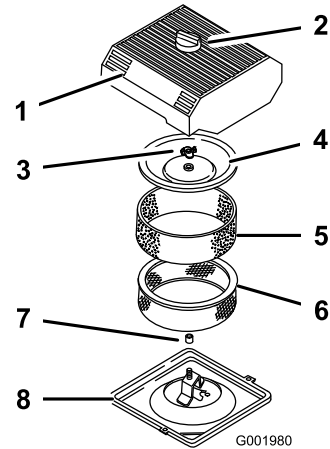

Figure 43
3. Clean around the air cleaner to prevent dirt from getting into the engine and causing damage (Figure 43).
4. Loosen the knob on the air cleaner cover and remove the cover (Figure 43).
5. Carefully slide the foam element off the paper element (Figure 43).
6. Unscrew the cover nut and remove the cover and paper element (Figure 43).
1. Carefully slide the foam element onto the paper air cleaner element (Figure 43).
3. Install the cover nut finger-tight against the cover (Figure 43).
4. Install the air cleaner cover and knob (Figure 43).